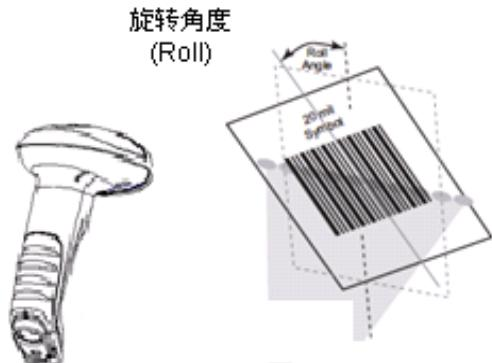

Fig. 1-15
- ✧ Roll : $\pm 30^\circ$, 0° Pitch and 0° Skew (Fig. 1-15)